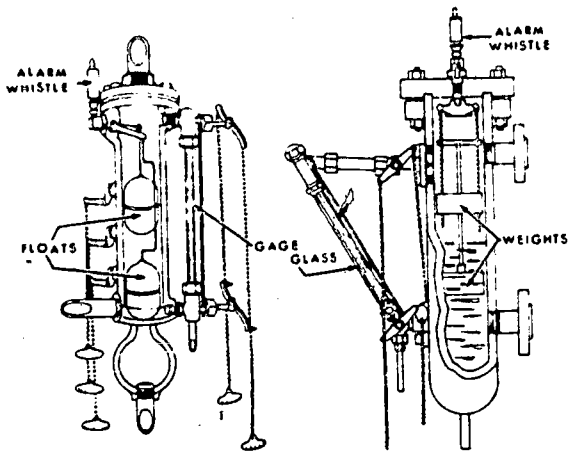

Figure 40. Water columns.
50. *Water column.* A water column is a hollow cast-iron, malleable-iron, or steel vessel that has two connections to the boiler, as illustrated in figure 40. The main purpose of the water column is to help prevent fluctuation of the water level in the gage glass. The top connection enters the steam space of the boiler through the top of the shell, or head, and the water connection enters the shell, or head, at least 6 inches below the lowest permissible water level. The pipe used to connect the water column to the boiler may be brass, iron, or steel, depending on the pressure requirement; it must be at least 1 inch in diameter.
52. The water columns illustrated in figure 40 are equipped with high-water and low-water alarms, which sound a whistle to warn the operator. The whistle is operated by either of the two floats or solid weights.